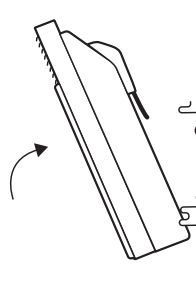

Figure 5
7. To place the heater on the bracket, insert the lower clips first then the top, and push firmly until it clicks into position, as shown in figure 5.